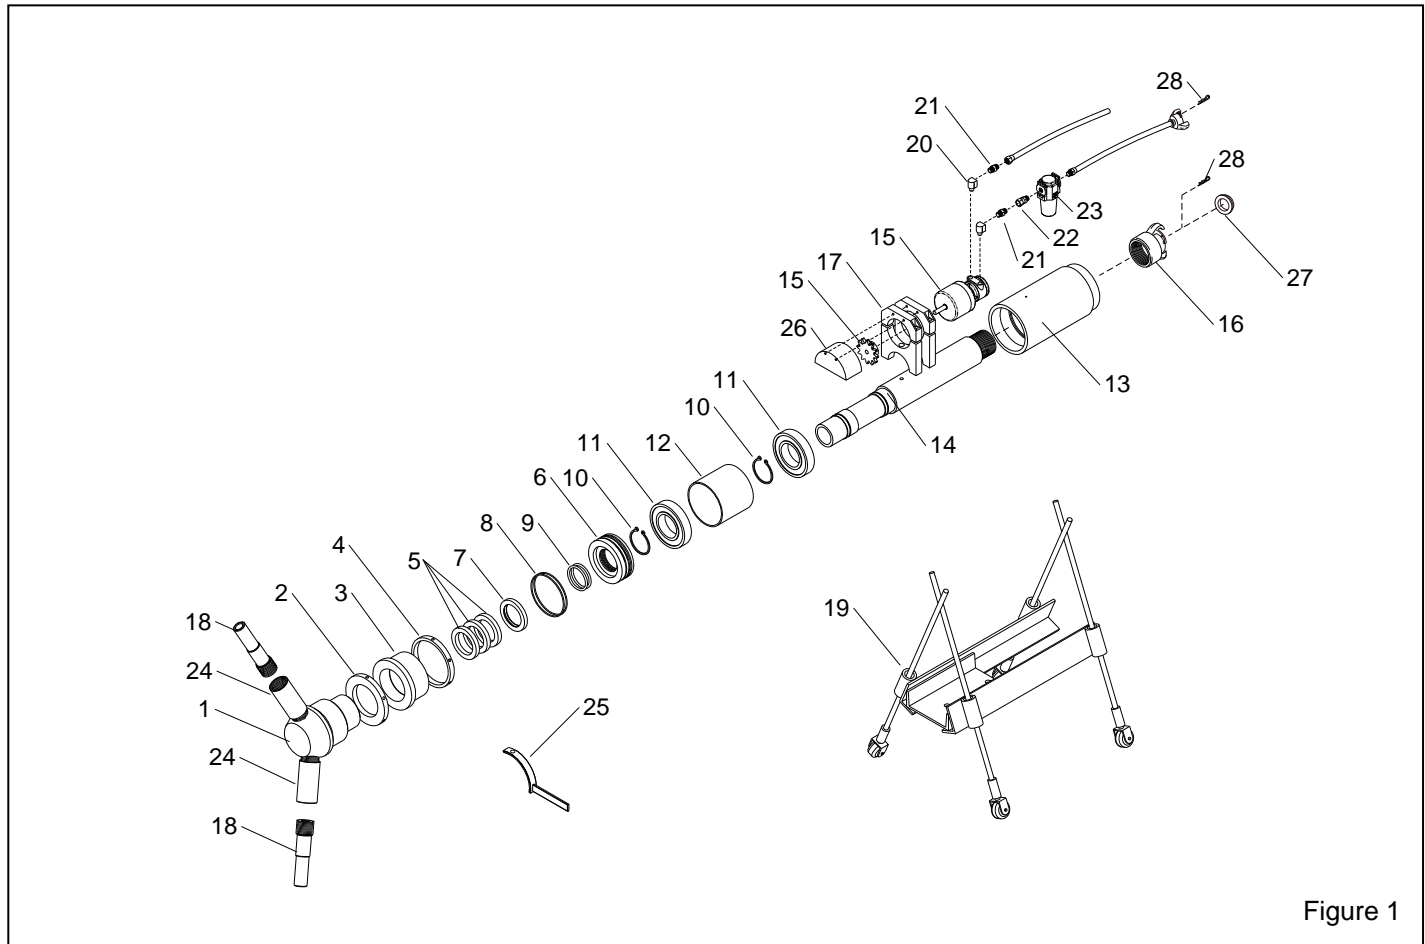

Figure 1
- 6.0 MAINTENANCE, Refer to Figure 1**
**8.1 Spin-Blast HD Assembly, Figure 1**